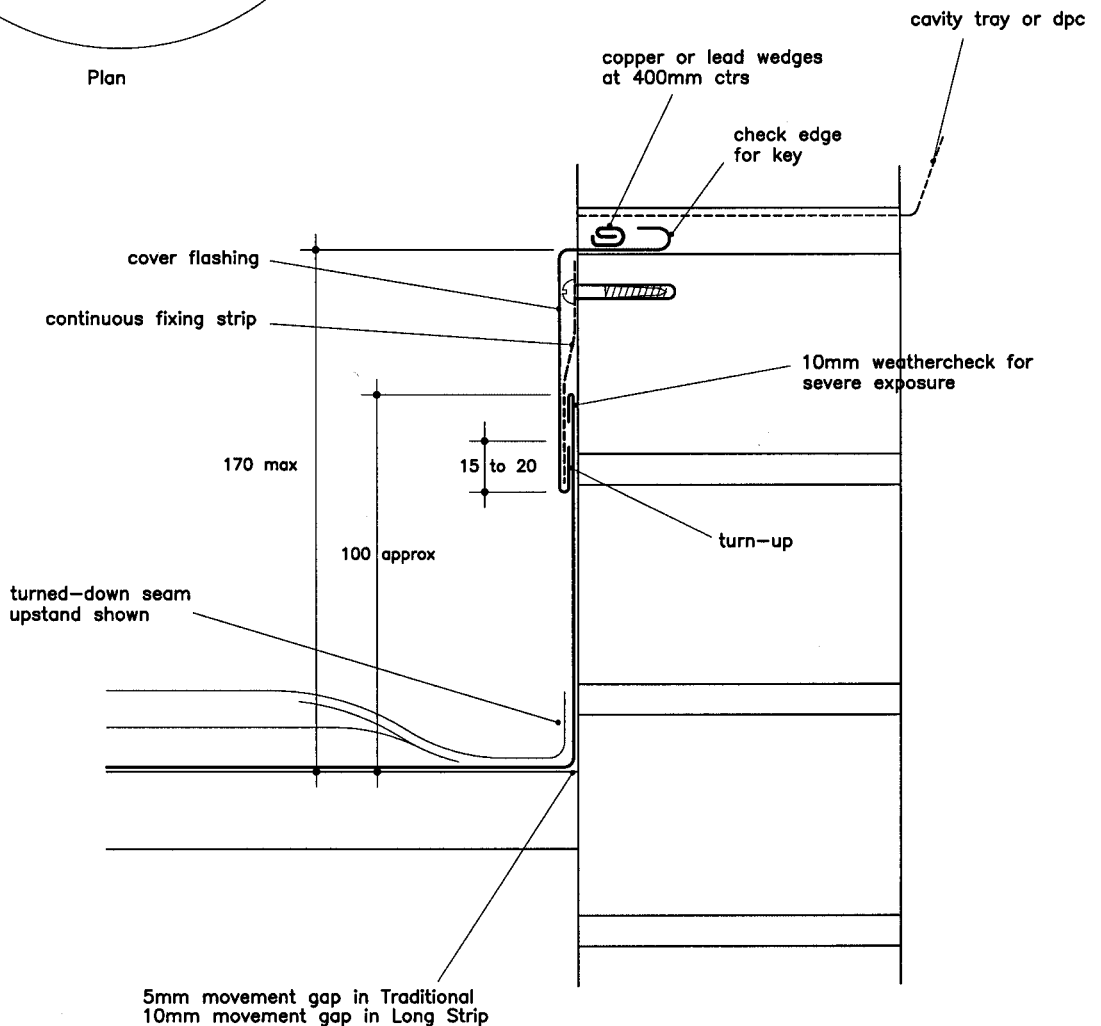

Fig 11b
- * Joints in cover flashings should be at 2m maximum centres. They can be made with single- or double-lock welts, according to exposure (see Fig 11b). Double-lock welts will be difficult to form in this situation and should be pre-formed.